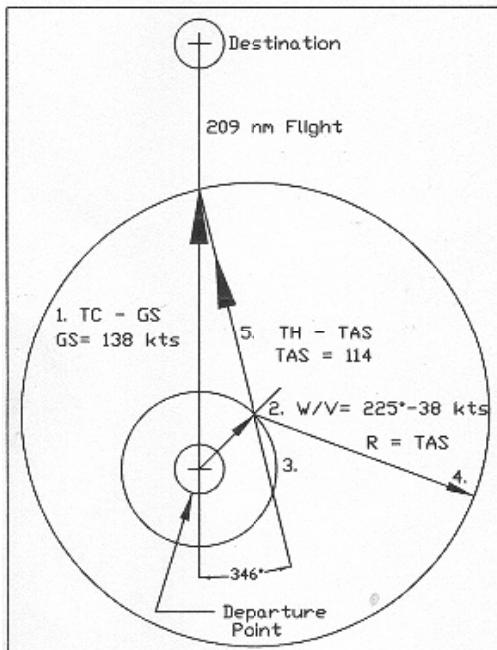

Fig 13: ACAD or Hand Drawn Wind Vector
A wind triangle solution is necessary for the application of DR, or any other type of Aero Navigation. It could be drawn manually; directly on a Sectional chart, on grid paper, or using ACAD as shown on Fig 13. The sequence of actions in this case are numbered in Fig 13:
A graphic solution similar to the wind vector shown in Fig 13 can be performed using this wind vector side of the E-6B. The rotating disc & slider allow the Aero Navigator to determine anticipated drift off course by the inevitable cross winds, as well as the impact of winds upon speed over the earth (GS): As with the slide rule side of the E-6B, the wind vector side can be used for any variable that happens to be an unknown; thus forward or reverse. As a flight progresses the plane may drift off course. If navaids allow determination of a fix, the Aero Navigator can use the Weems plotter to measure the “revised desired TC to destination, & the actual drift angle for that 1st leg of the flight. He can then use the slide rule side of the E-6B to determine ground speed.